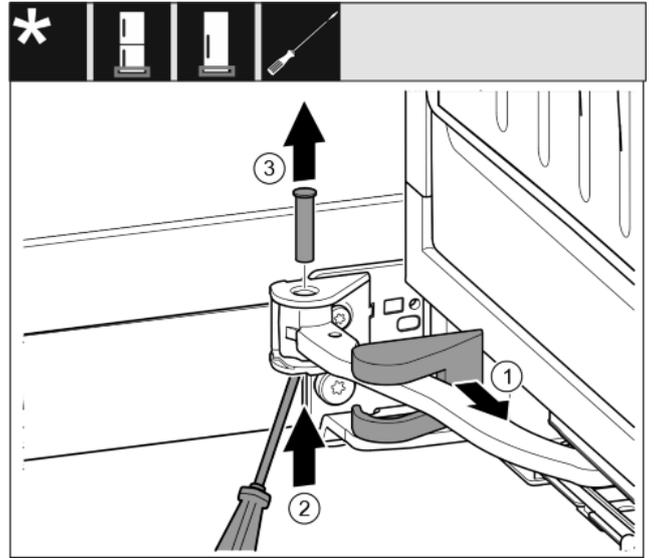

Fig. 12
- ▶ Remove the bearing bracket cover and push it along the hinge. Fig. 12 (1)
- ▶ Lift the bolt with a finger or screwdriver from below. Fig. 12 (2)
- ▶ Insert the screwdriver under the bolt head and pull it out. Fig. 12 (3)